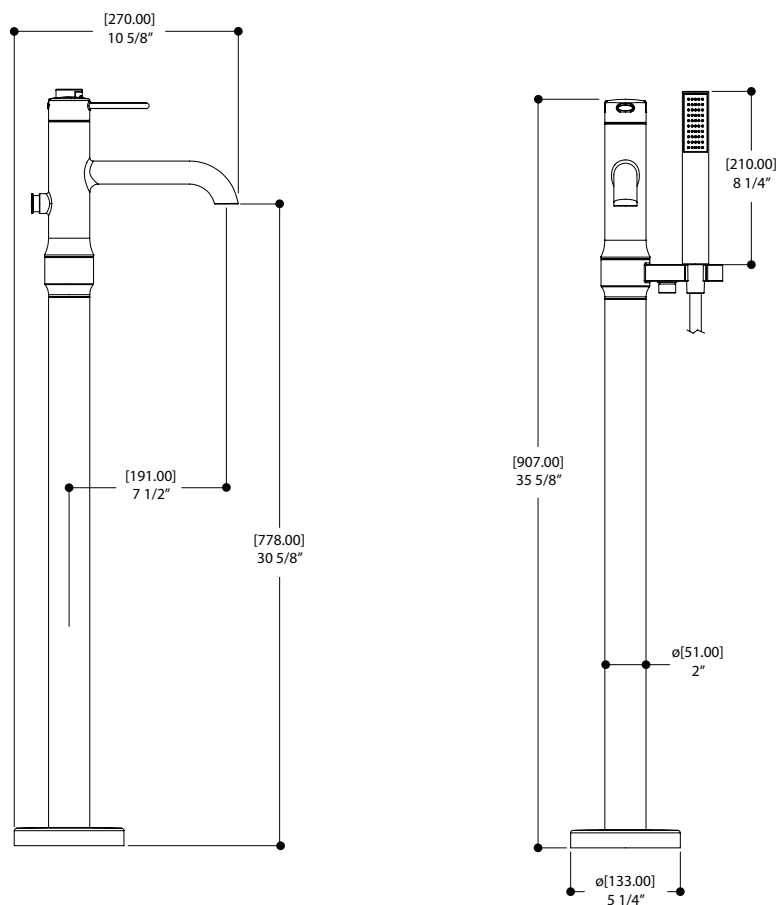

Fig.1
- B. Mark and drill three mounting holes over the floor. (Fig. 1)
- B. Marquer et percer trois trous de montage. (Fig. 1)